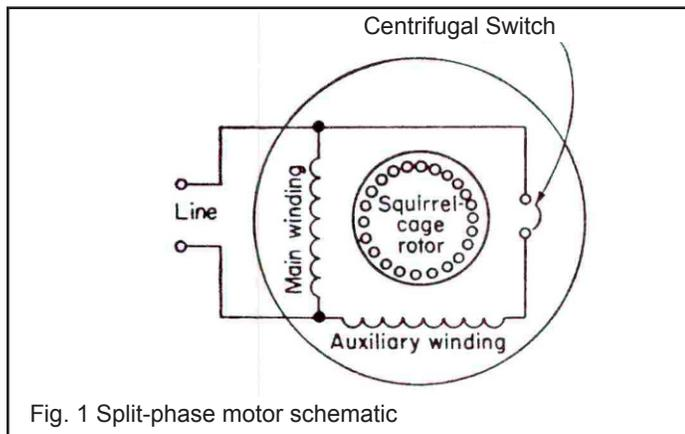

Fig. 1 Split-phase motor schematic
A split-phase motor is a single-phase induction motor equipped with an auxiliary winding to start the motor turning (Fig. 1). This auxiliary winding, often called the start-winding, must be cut-out of the electrical circuit before the motor reaches nominal speed. The typical design calls for the start-winding circuit to be cut-out between 75% and 80% of the nominal speed of the motor. This is accomplished by using a speed governor which is typically a centrifugal switch. A centrifugal switch consists of two parts, (1) a centrifugal mechanism which rotates on the motor shaft and interacts with (2) a fixed stationary switch with electrical contacts which controls the start-winding circuit.